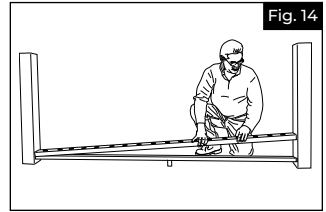

Fig. 14
- d. Snap the bottom rail (B) over the bottom beam (D) (Fig. 14).